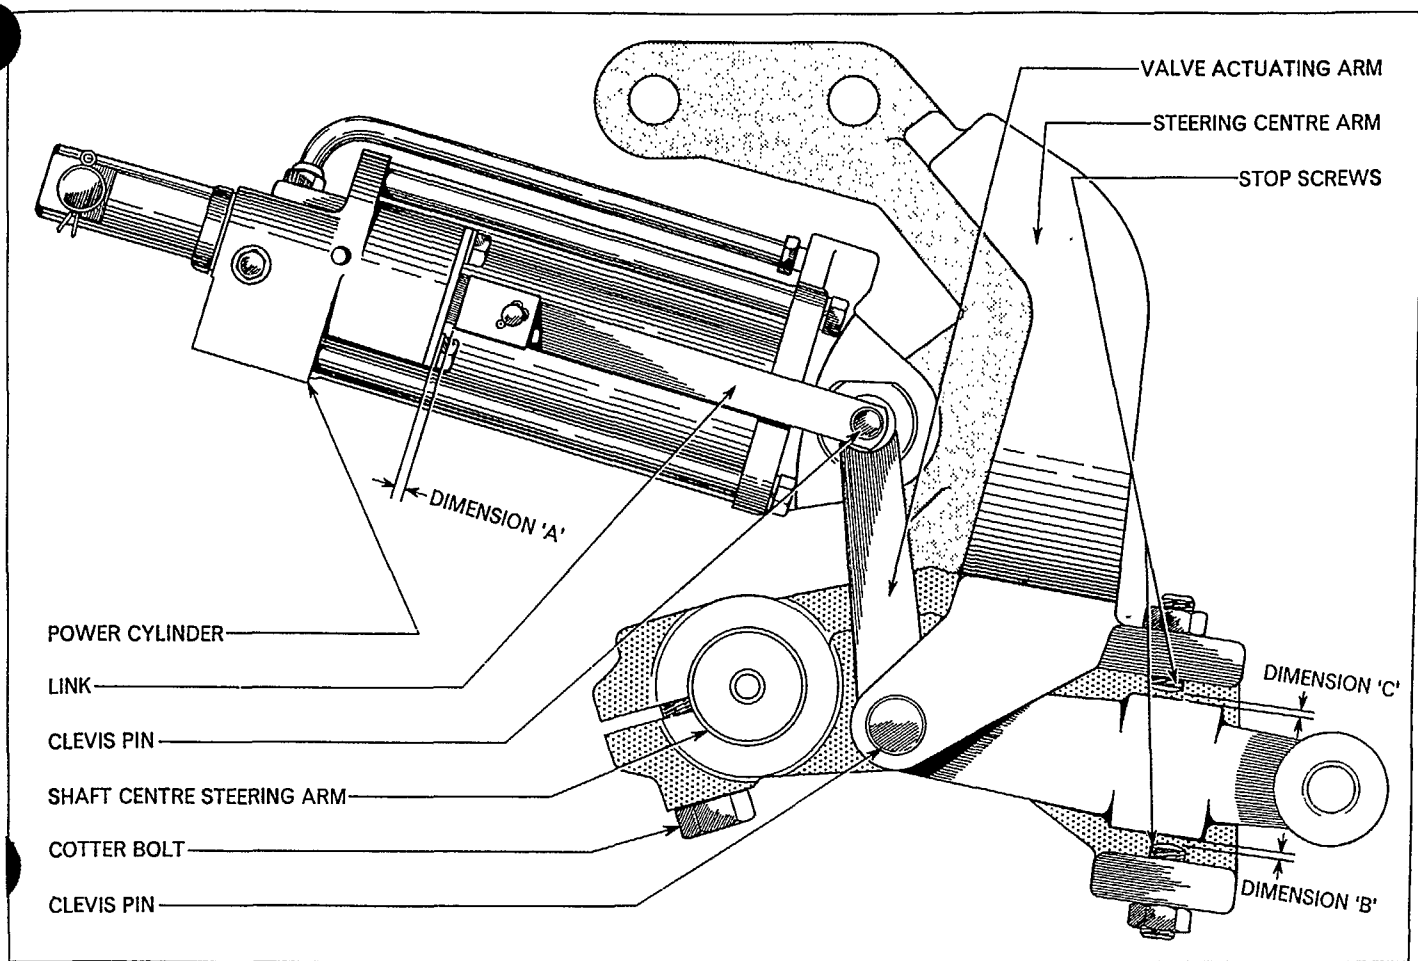

Figure 66
5. Position the valve actuating arm so that clevis pin retaining control valve link to arm installs freely. Measure and record dimension 'A', Figure 66.
9. Adjust the stop screws so that dimensions 'B' and 'C', Figure 66, are at the minimum setting to obtain power assistance over the steering range. This is obtained by decreasing dimensions 'B' and 'C' until power assistance is lost in both directions. Then adjust the stop screws until power assistance is just regained over the steering range. When adjustments have been completed tighten the top screw locknuts, make sure that the stop screws do not move during the operation.